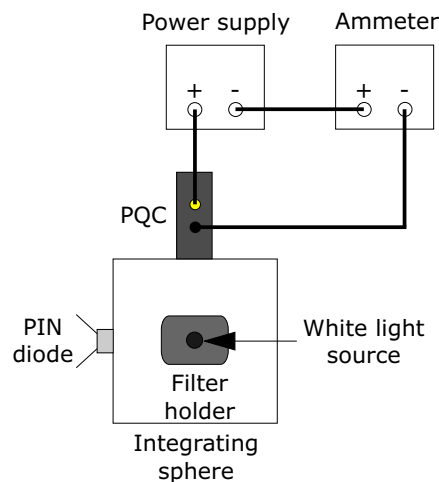

Figure 1: Experimental setup for photodiode and avalanche mode illustration.
- Set up the equipment as shown in Fig. 1. This places the photon counting detector, contained within the SensL PQC, in the dark. The room lights may be turned off when making measurements as this increases the darkness.
- Set up the equipment as shown in Fig. 1. Switch the first PQC switch (brown switch) on, which places the $0\ \Omega$ resistor in series with the diode.
- Set up the equipment as shown in Fig. 1. Switch the first PQC switch (brown switch) on, placing the $0\ \Omega$ resistor in series with the diode.